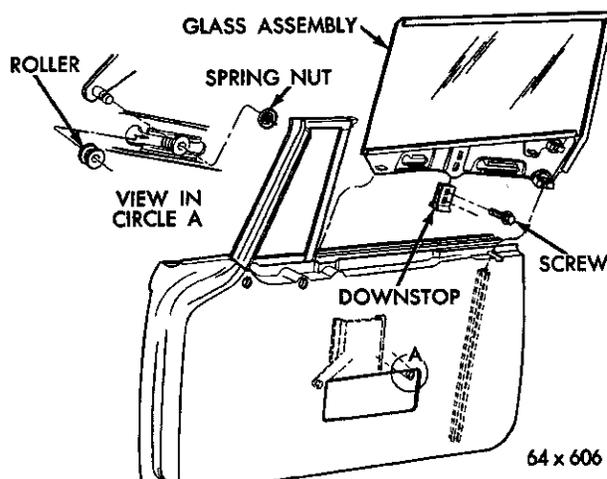

Fig. 69—Front Door Glass and Frame (Imperial)
(3) Remove the two screws and studs from the window regulator arms (Fig. 69).